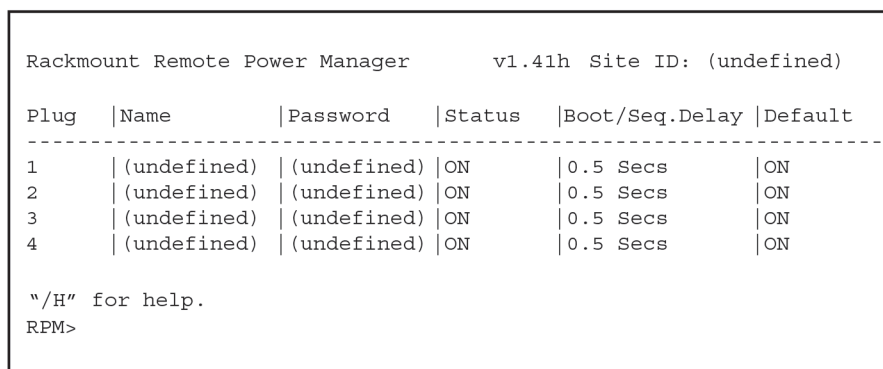

Figure 3. Plug Status screen—text interface for PS580A and PS581A.
- i. Via Telnet™: Start your Telnet program, then Telnet to the Rackmount Remote Power Manager's default IP address (192.168.168.168). The Rackmount Remote Power Manager's Plug Status screen (Figure 3) appears.
- ii. Via Local PC: Start your communications program (for example, HyperTerminal) and press [Enter]. The Remote Power Manager's Plug Status screen appears (Figure 3).